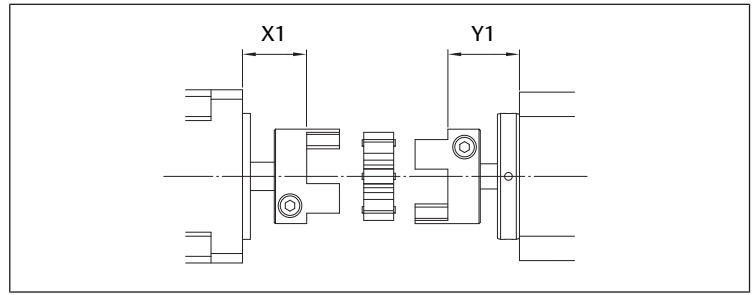

Fig. 12: Positioning dimensions for coupling without foot mounting
- For coupling without foot mounting. See → Fig. 12 and → Table 4.